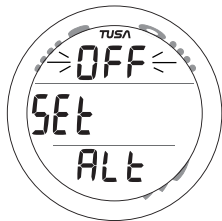
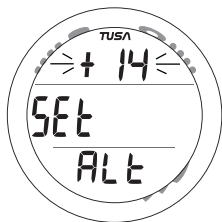

Fig. 15A - SET ALT TIME
Fig. 15B - SET ALT TIME
- > Set Point graphic OFF (Fig. 15A) or numeric (Fig. 15B), flashing.